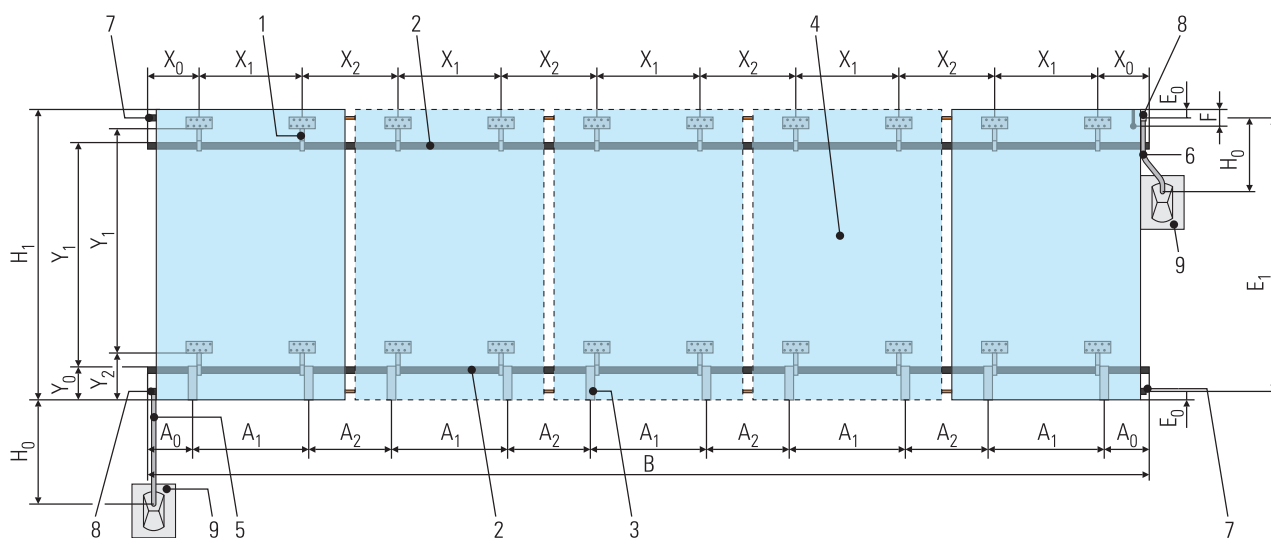
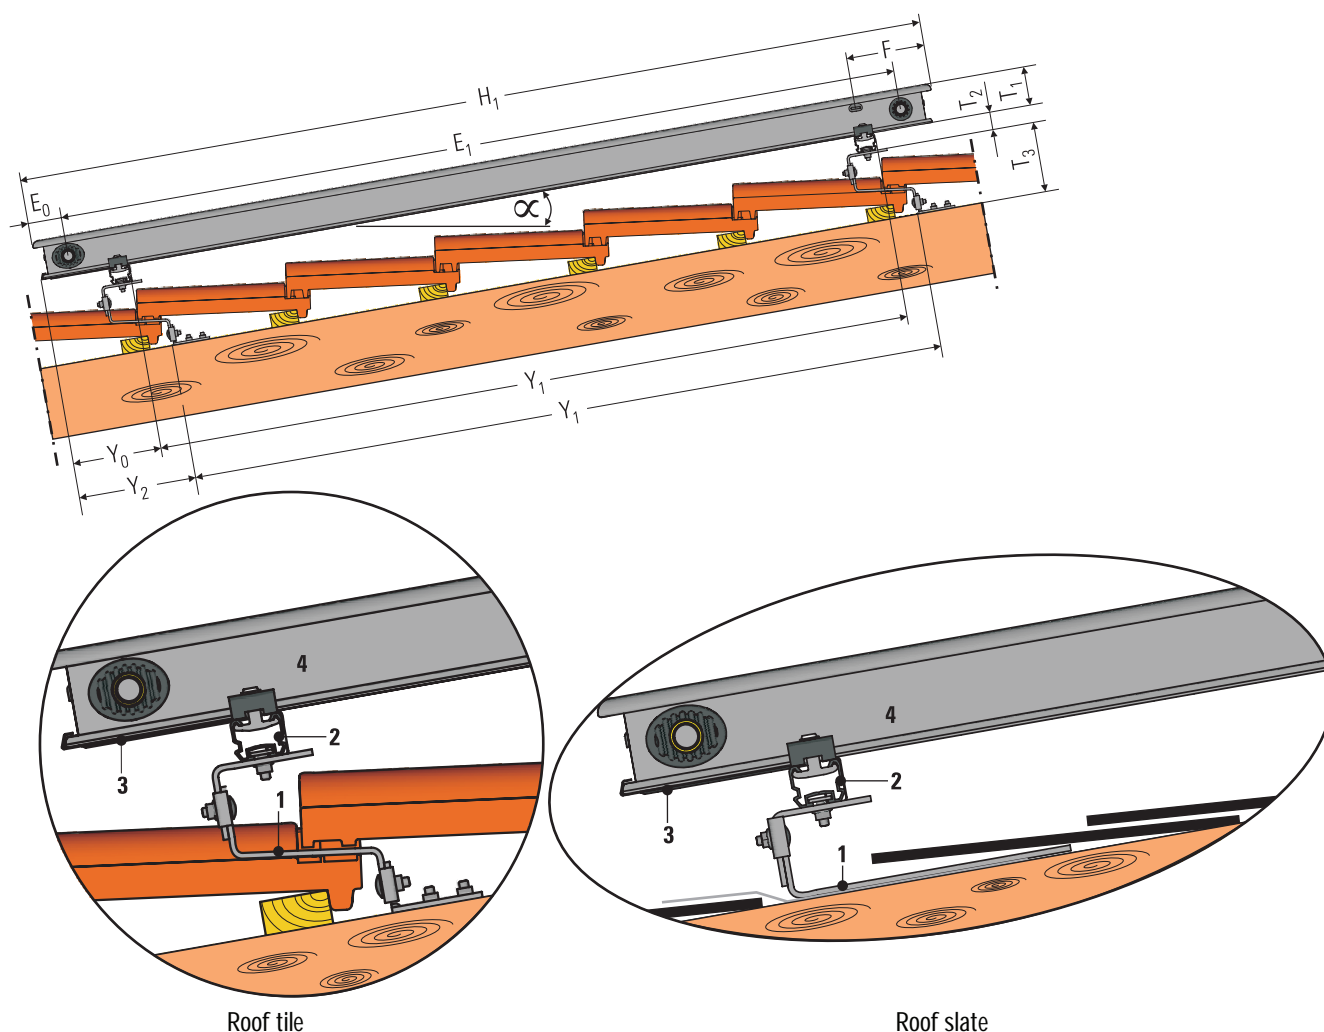

Fig. 3-3 Main dimensions of a solar panel array for on-roof mounting (example shows solar panel EKSV26P)
Fig. 3-4 Side view of a solar panel installed on the roof
The main dimensions of the solar panel array (as shown in Fig 3-3 and Fig 3-4) are summarised in Tab. 3-3.
- Prepare a covering plate Fig 3-4 (taking care with adequate dimensioning).